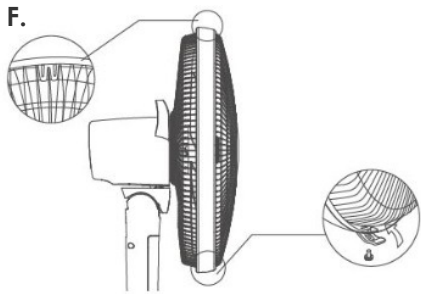

FIG.12
- At the bottom of the guard ring (4) loosen the clip screw (2) and keep safe. See Inset G.
- Open the locking clip (3).
- Position the top clip on the front grille (1) with the top part of the rear grille (top inset F in Fig.12).
Reverse instructions on assembly step #5 (See Fig.12 above):